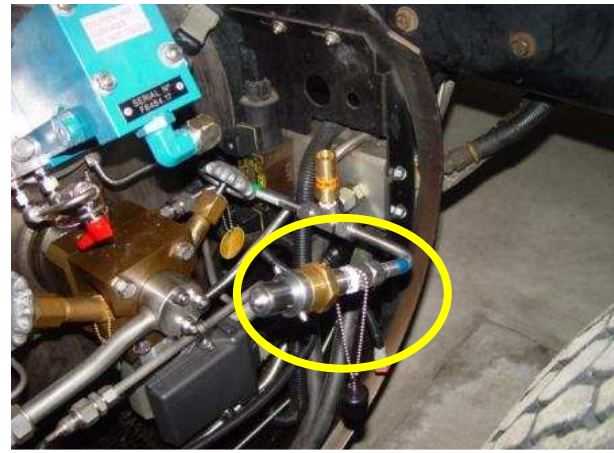

Figure 2. Attachment of the Station Quick Disconnect Adaptor
5. Connect the *Tank Adaptor* (Green) of the LNG Drain Kit to the LNG tank liquid drain port, see Figure 2.
14. Connect the *Tank Adaptor* (Green) to the LNG tank liquid drain port, see Figure 2.